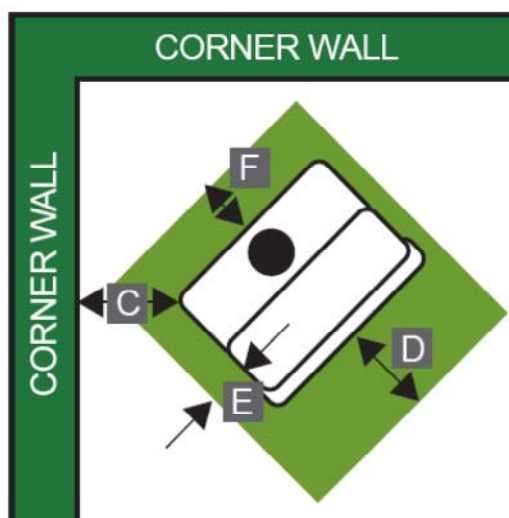

Figure 2
- The following clearances must be met (see Figure 2):